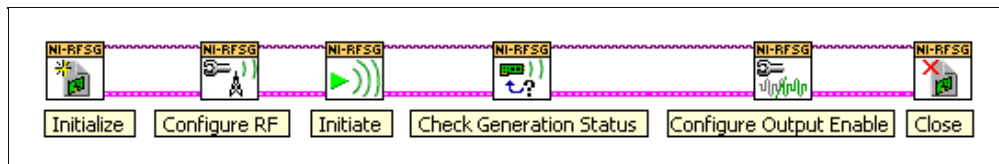

Figure 1: Basic NI-RFSG Block Diagram
5. Create the block diagram shown in Figure 1 by placing the five core VIs on the block diagram in the order they appear in the top row of the NI-RFSG functions palette.